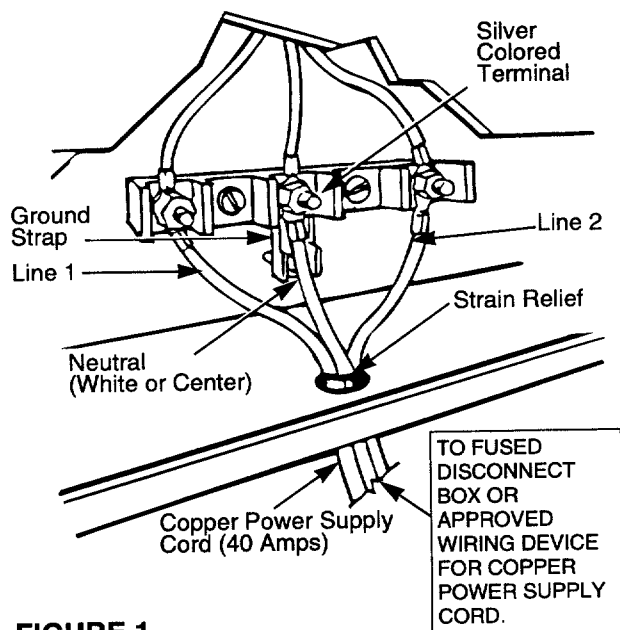

FIGURE 1
C. Connect the neutral wire of the copper power supply cord to the center silver colored terminal of the terminal block and connect the outer wires to the outer terminals. See Figure 1. Ring type terminals must be used on copper power supply cord wires.